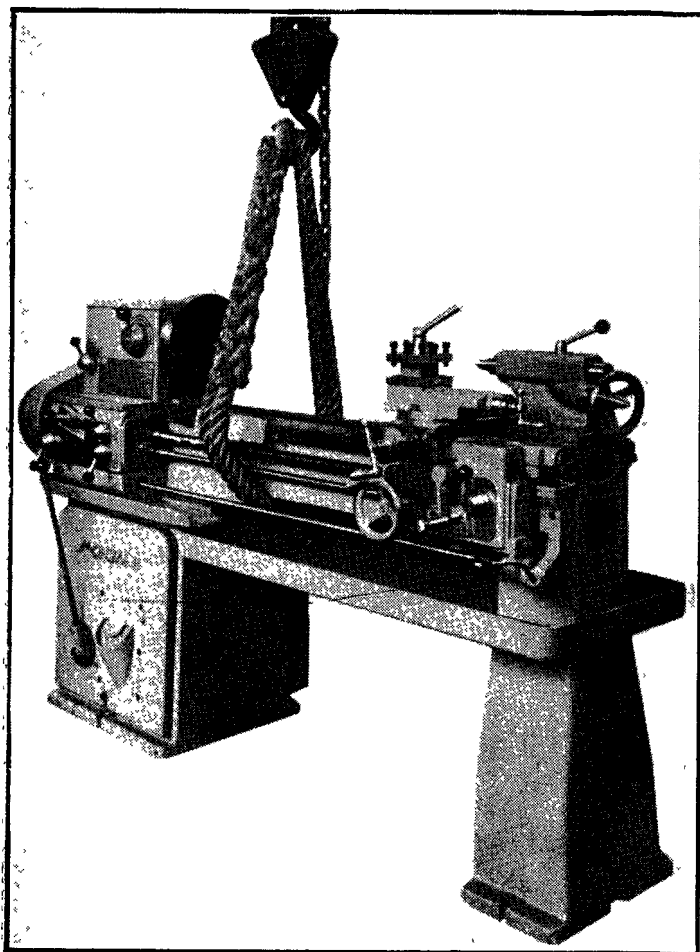

Fig. 9.
c) To prevent this, use wooden blocks against the bed (fig. 9);